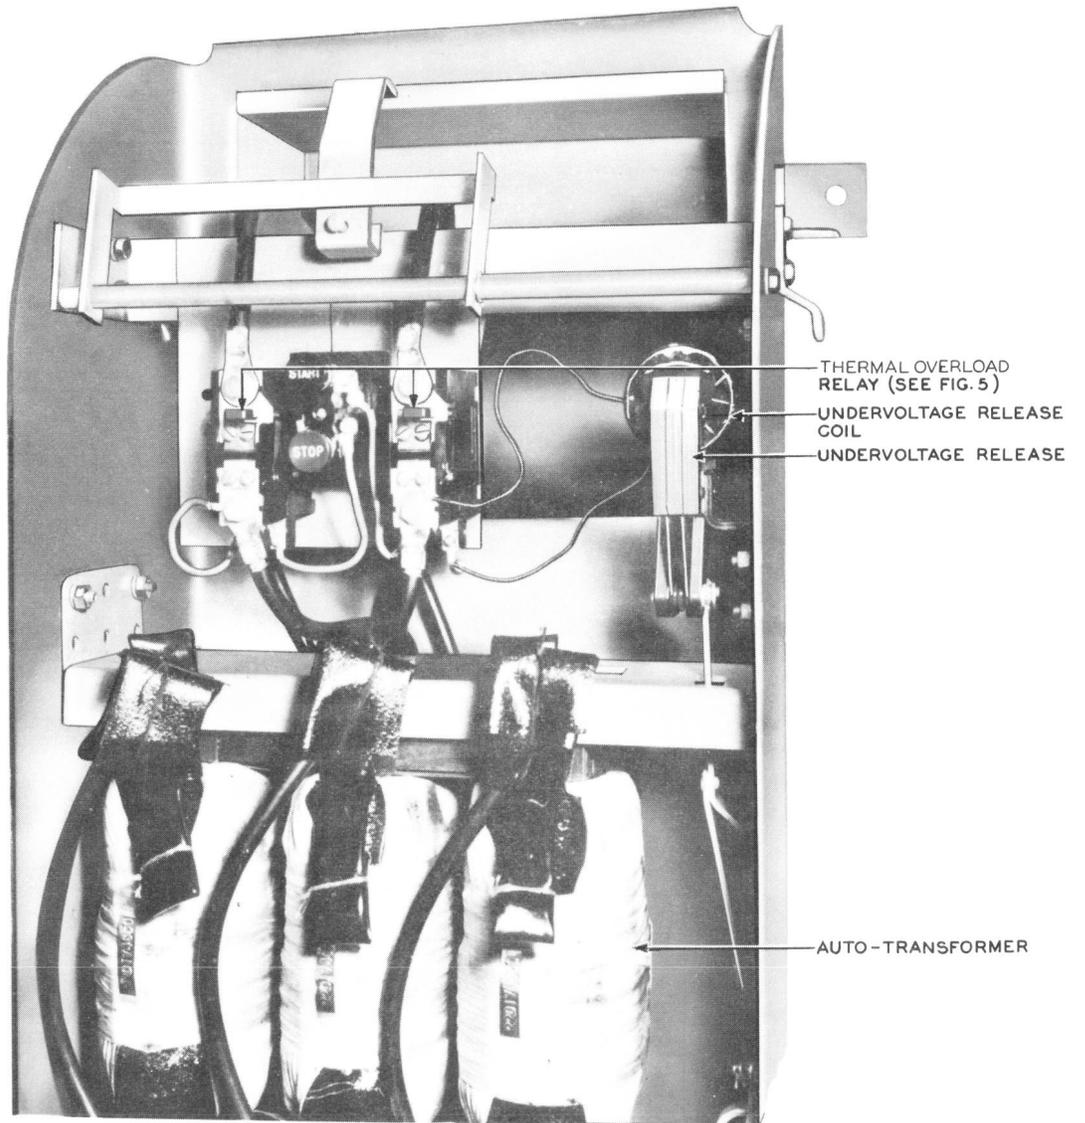

Fig. 4 - KS-5140-01 Manual-type AC Starter - Form F
3.20 To replace the autotransformer on the form F starter shown in Fig. 4, be sure the ac service is disconnected ahead of the starter. Remove the box cover. After noting their positions, disconnect the autotransformer leads from the contactor. Remove the screws, nuts, and lockwashers used